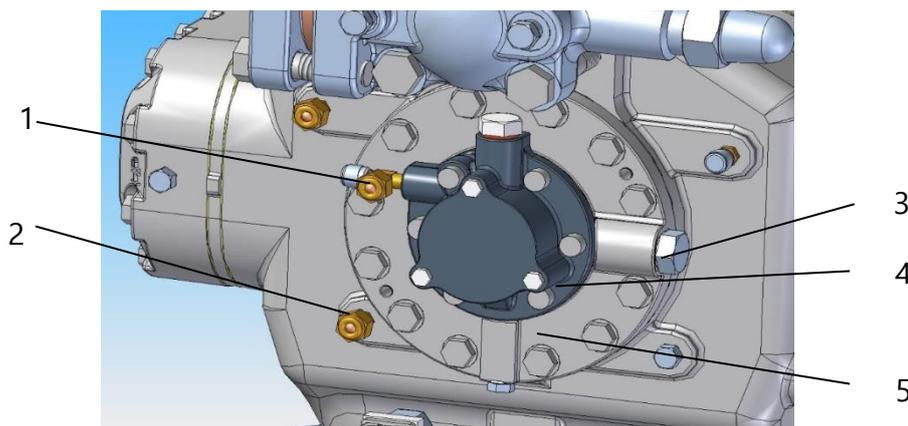

Fig. 15: Gear pump for compressors PP4-L/Hxx PP6-L/Hxx PP8-L/Hxx
The gear pump has also a safety valve (ref. 2 in Fig. 15), which allows the oil by-pass to the carter when the delivery pressure exceeds the set value (open at 4,1 bar; rearmament 2,8 bar).